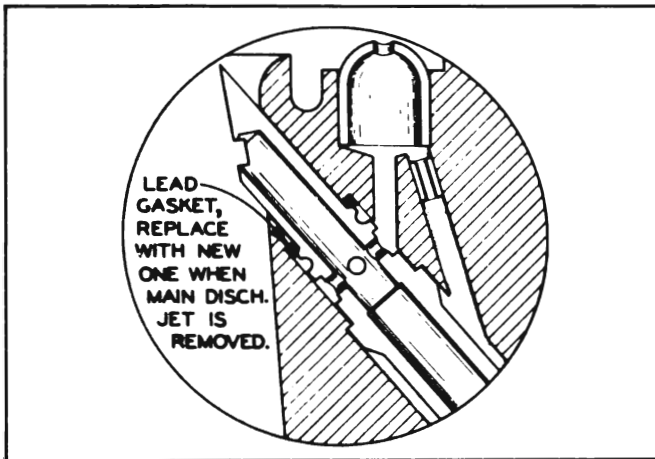

Figure 3-75—Position of Main Discharge Jet and Gasket
8. Place *new* lead gaskets over beveled ends of main discharge jet. Use Jet Remover T-24967 to install jets in main body, being careful to position jets so that flat surface is parallel with the direction of air flow. See figures 3-75 and 3-70.